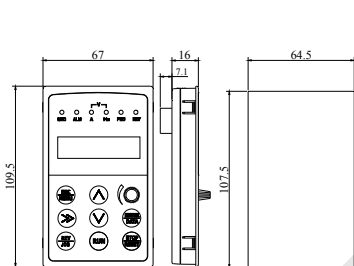

Fig.2-6 Mounting size of keypad
- (1) EN-LCD2 long-distance keypad outer lead, do not support keypad holder installed, only keypad installed support, mounting size refer to Fig.2-6.
- (2) Except EN-LCD2 long-distance keypad, when other keypad outer lead, user can adjust the hole size under actual situation on keypad or keypad holder; thickness of install board between 1.0~1.5mm is suggested.
- (3) When installed with keypad holder, it need to buy extra.